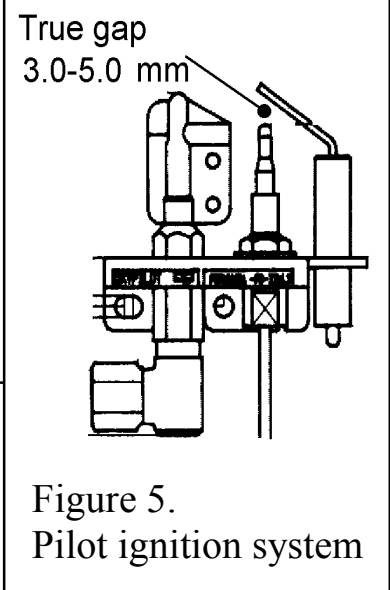

Figure 5. Pilot ignition system
- b. Check spark gap between electrode wire and thermocouple tip (see figure 5).